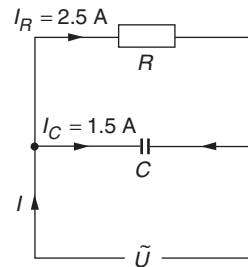

Fig. 61
9. The resultant current I in Figure 61 is